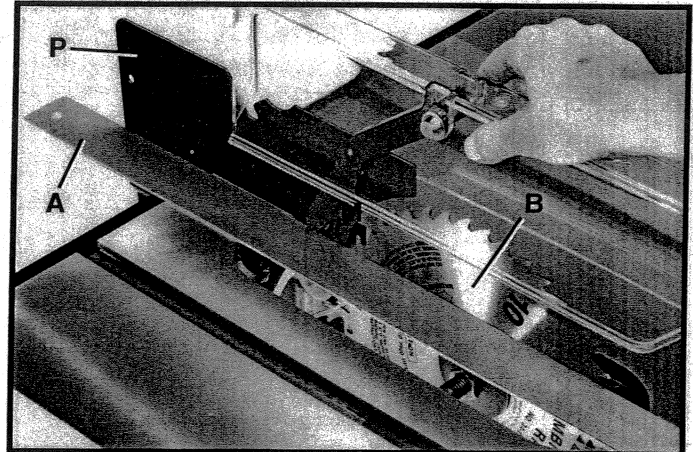
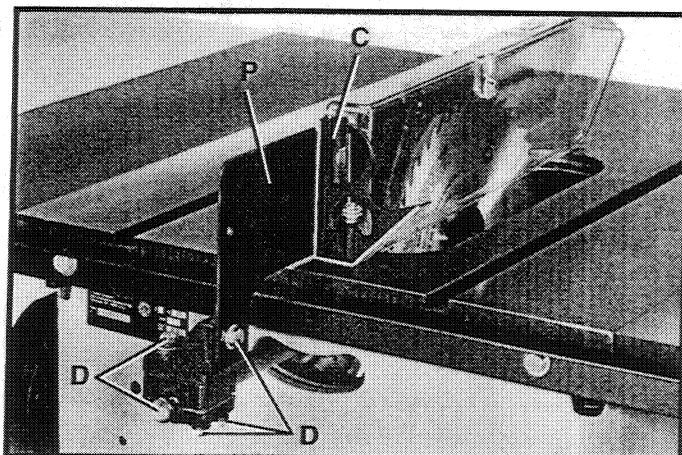

Fig. 46
Fig. 47
12. Using a straight edge (A) Fig. 46, make certain the saw blade (B) is aligned with the splitter (P). Using a square (C) Fig. 47, make certain the splitter (P) is 90 degrees to the table surface. Once you are certain the splitter is aligned to the saw blade and table, tighten all splitter mounting hardware (D) Fig. 47.